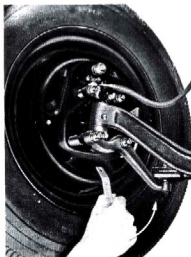

Fig. 50—Adjusting Front Brakes
3. Remove adjusting hole covers from flange plate on all four wheels. Expand brake shoes by turning adjusting screw until a light drag is felt on the brake drum (fig. 50); then, back off adjusting screw just enough to obtain free rotation of brake drum. This should not exceed 7 notches. Replace adjusting hole covers.